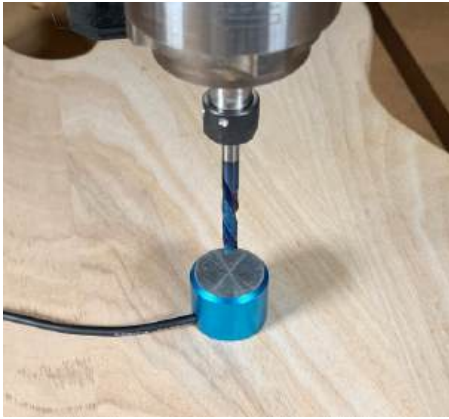

Figure 10-5
2. Place the touch off puck on top of your workpiece and under the installed bit (see Figure 10-5).